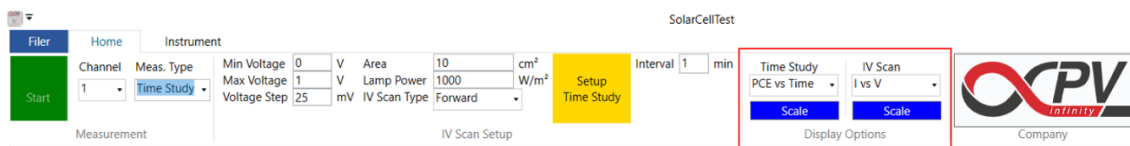

Figure 7. Display options
In the “Display Options” section (see figure 7) the IV scan graph window can be set to display four different graph types: I vs V, J vs V, P vs V and log(I) vs V (where I = current [mA], V = voltage [V], J = current density [mA/cm²], P = power [mWatt] or the logarithm of the current versus the applied voltage).